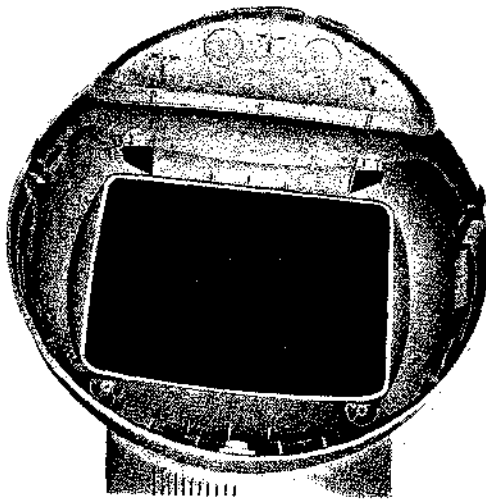
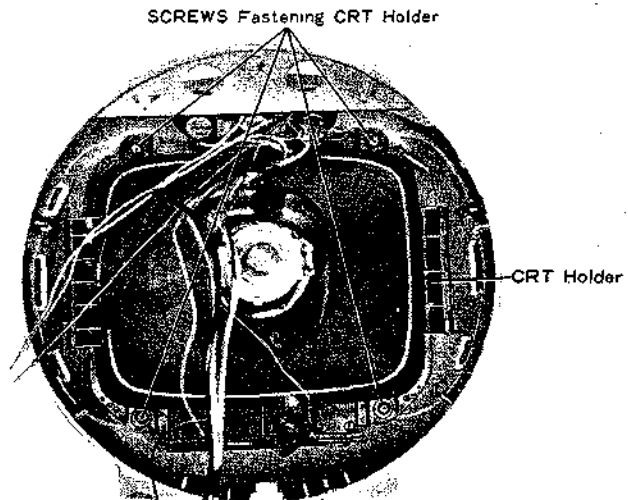

Fig. 4
Fig. 5
3. Remove 4 screws fastening CRT holder (Fig. 5). Take out the all parts contained CRT with both hands by having the CRT face all together from the Printed Circuit Board on right hand and the heat sink board on left hand. Fig. 4 is the photo removed all parts from front panel.